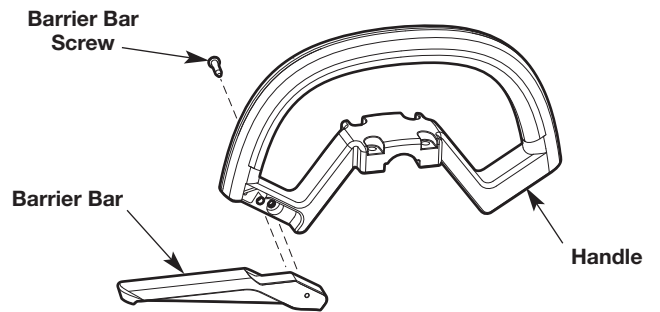

Fig. 6
1. Align the two pegs on the barrier bar with the two holes in the handle (Fig. 6).
3. Insert the barrier bar screw into the handle (Fig. 6).